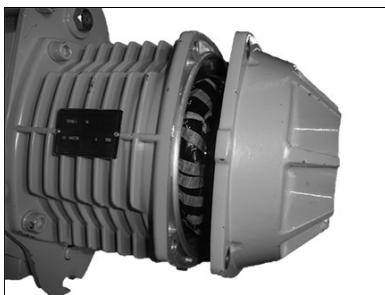

Figure 8.5.2
2. Carefully pull the motor brake unit out of the hoist (see Figure 8.5.2).